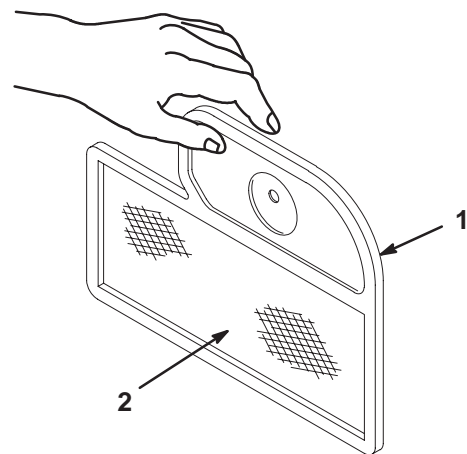

Figure 23
1. Lightly tap the element on a flat surface to remove dust and dirt (Fig. 23).